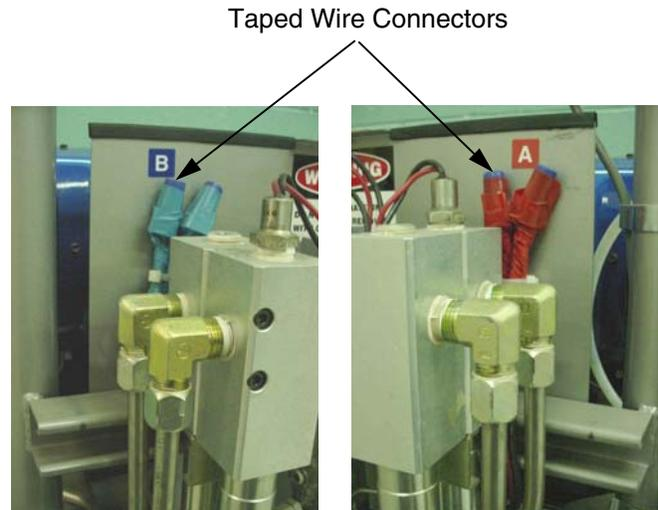

FIG. 4
4. Remove tape and wire connectors; disconnect heater element wires from heater wire harness. See FIG. 4.